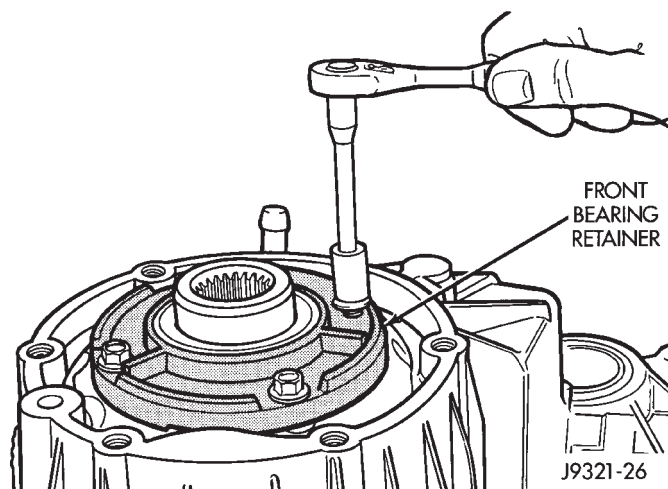

Fig. 96 Installing Front Bearing Retainer
(1) Apply 3 mm (1/8 in.) wide bead of Mopar silicone adhesive sealer to mating surface of front bearing retainer. Allow sealer to set-up slightly before installing retainer.
(2) Install front bearing retainer (Fig. 96). Tighten retainer bolts to 16-24 N•m (12-18 ft. lbs.) torque.